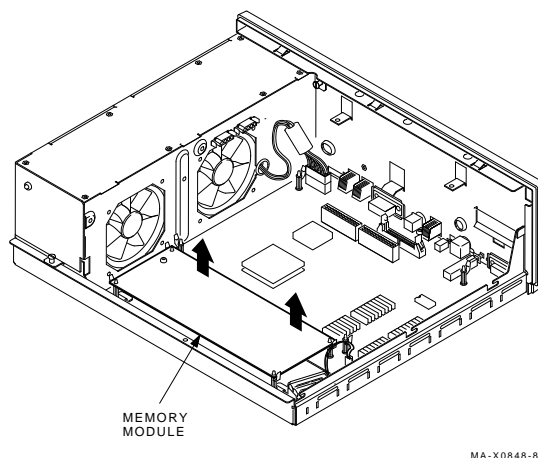

Figure 7-5 Memory Module Removal
1. Remove the memory module from the four standoffs, then lift the memory module off the system module (Figure 7-5). Two connectors disconnect as you lift the module.